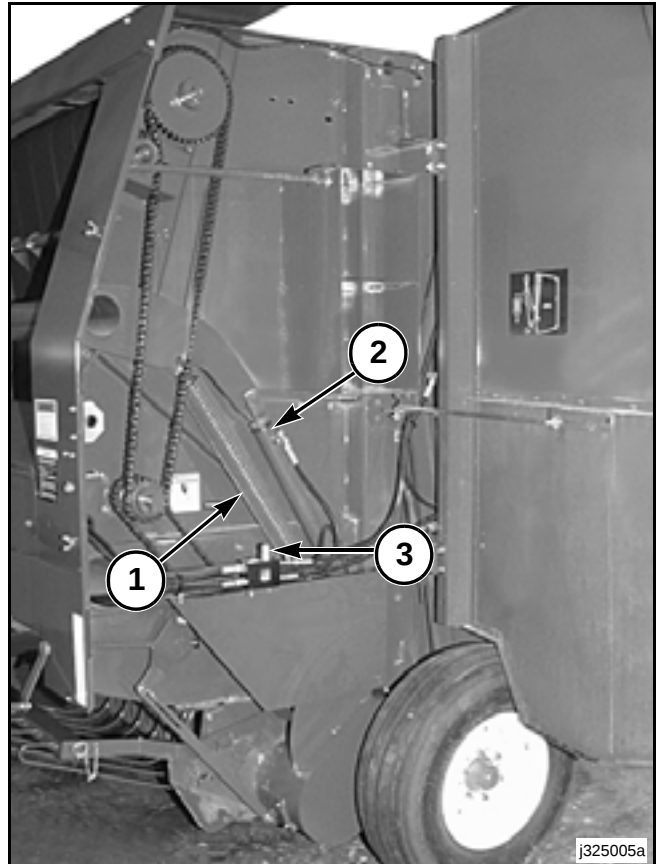

FIG. 26
FIG. 26: The bale density is controlled by two springs (1) and a hydraulic tension system. As the bale increases in size, oil is forced from the rod end of the forming belts tensioning cylinder (2) through a non-adjustable relief valve (3) to the base end. The pressure in the hydraulic tension system is held at 13 790 kPa (2000 psi).